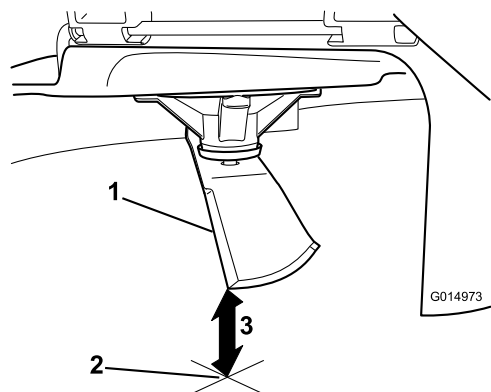

Figure 59
5. Measure from the tip of the blade to the flat surface (Figure 59).